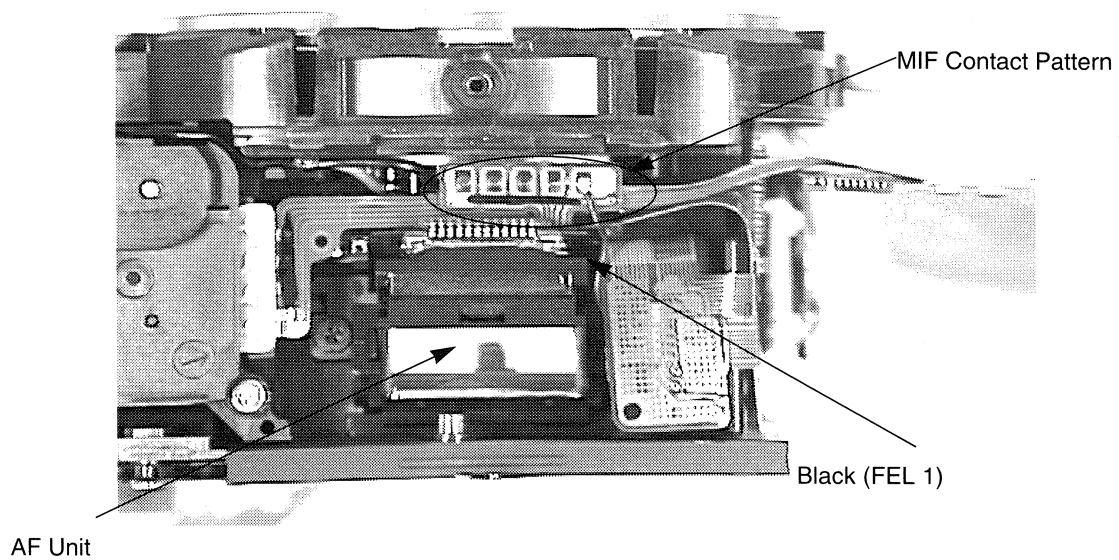

Fig. 3-20 Main Flex (Lower)
2. Remove the filter coil leads from the MIF unit (Fig. 3-20).
3. Unsolder the MIF Unit (Fig. 3-20).
Remove the filter coil leads from the MIF unit (Fig. 3-20).